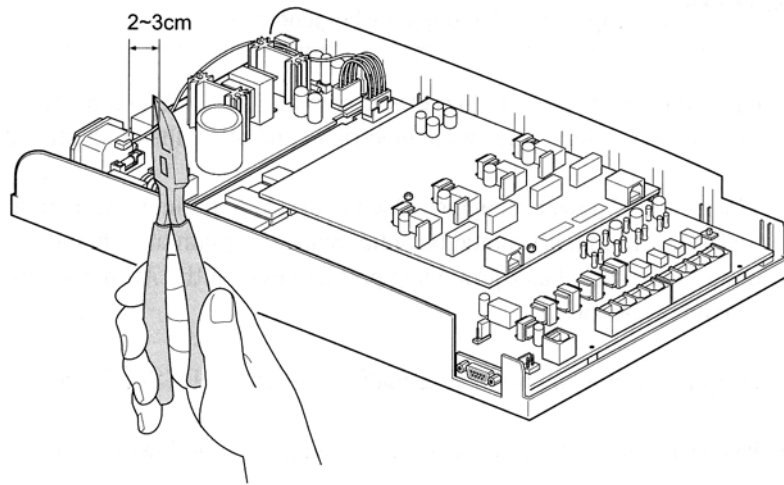

Figure 2
2. Cut the green cable soldered to the AC INPUT, about 2~3cm (1 inch) from the soldered end. (Fig. 2.)